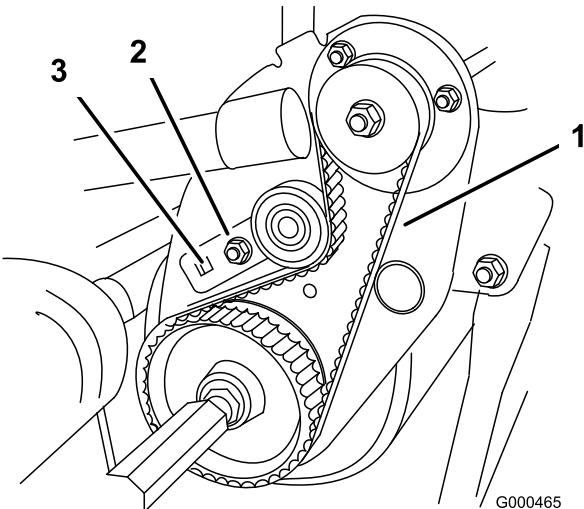

**Figure 43**
A. On back side of side plate, loosen the bolt securing the idler bracket to the side plate (Figure 43).